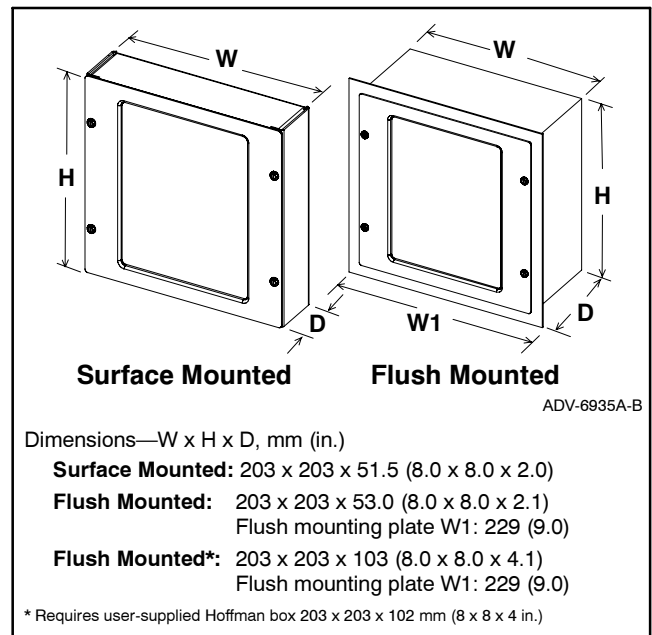

Figure 11 RSA Box Dimensions
3.1 Select a visible location for mounting the RSA up to 853 m (2800 ft.) from the controller. Install the RSA, either surface- or flush-mounted, in a location easily observable by operating personnel at their work stations. See Figure 11 for RSA overall dimensions.